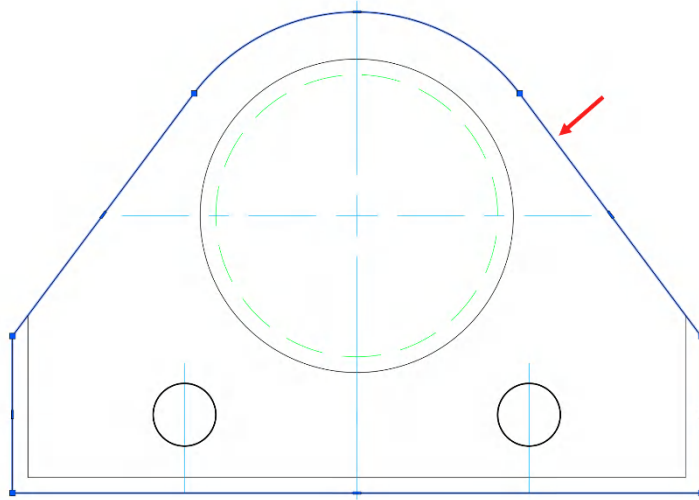

Figure 5.17: The selected polyline with grips displayed
7. Click on it to select it. You'll see that it's now one closed object with blue AutoCAD grips, as shown in *Figure 5.17*: